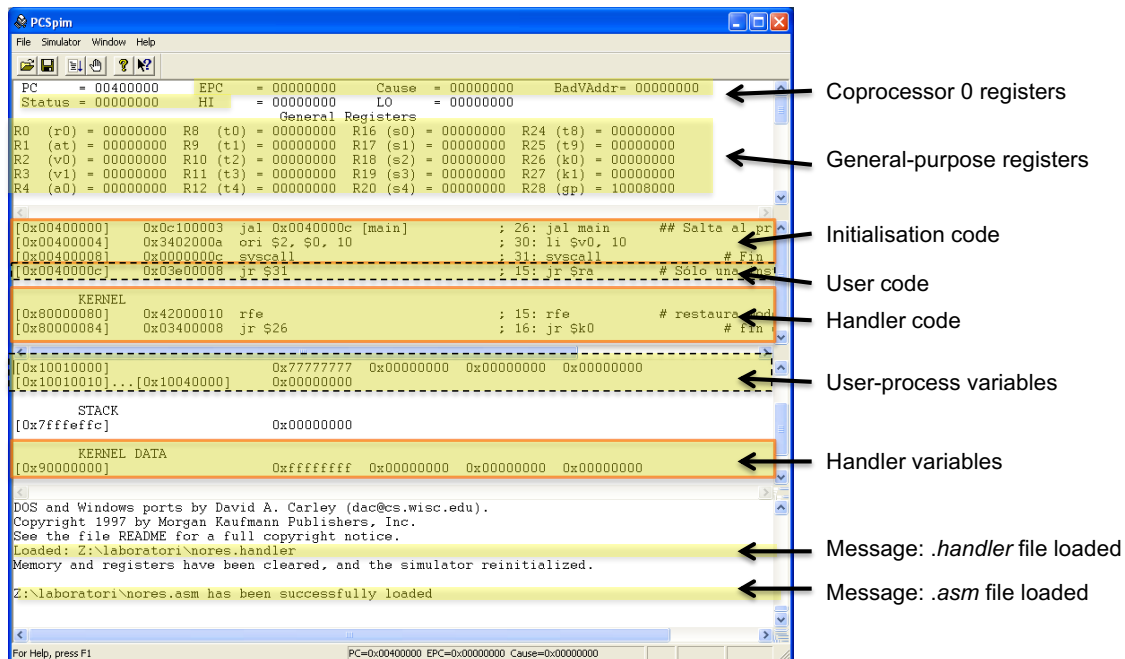

Figure 4. Location of relevant information about coprocessor 0 registers and the code and data of the user program and the kernel in PCSpim.
► Select *nothing.handler* as the *Trap File* (as shown in Figure 1) and load *nothing.asm*. In the simulator window, locate the information highlighted in Figure 4: